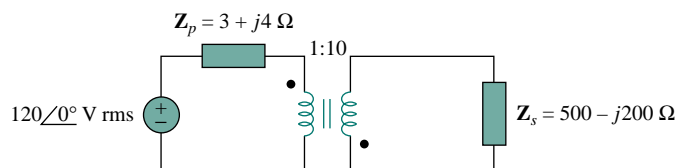

Figure 13.106 For Prob. 13.39.
- 13.39** In Fig. 13.106 below, determine the average power delivered to Z_s .